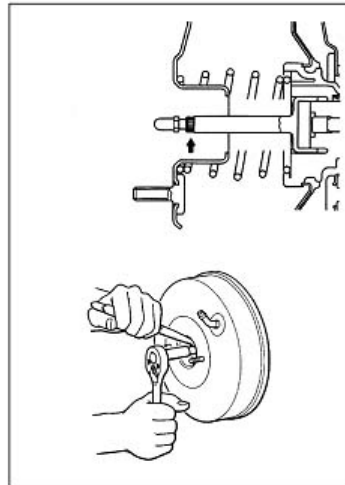

Fig. 16-30
② If the value is over the standard value range, adjust the push rod length by turning the screw of the push rod (see Fig 16-30).